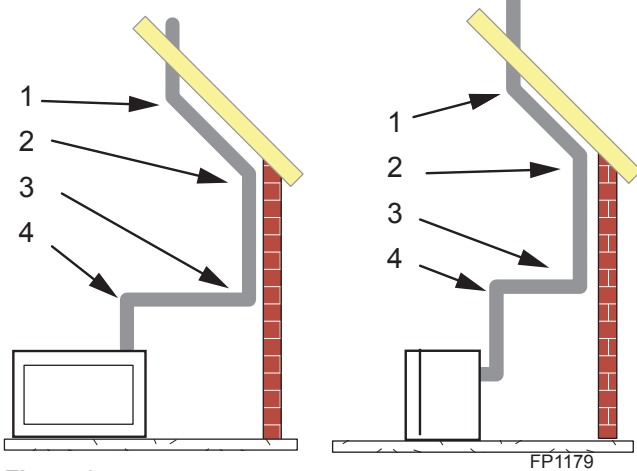

Figure 35 - Maximum Elbow Usage
- The maximum angular variation allowed in the system is 270° . *Figure 35*